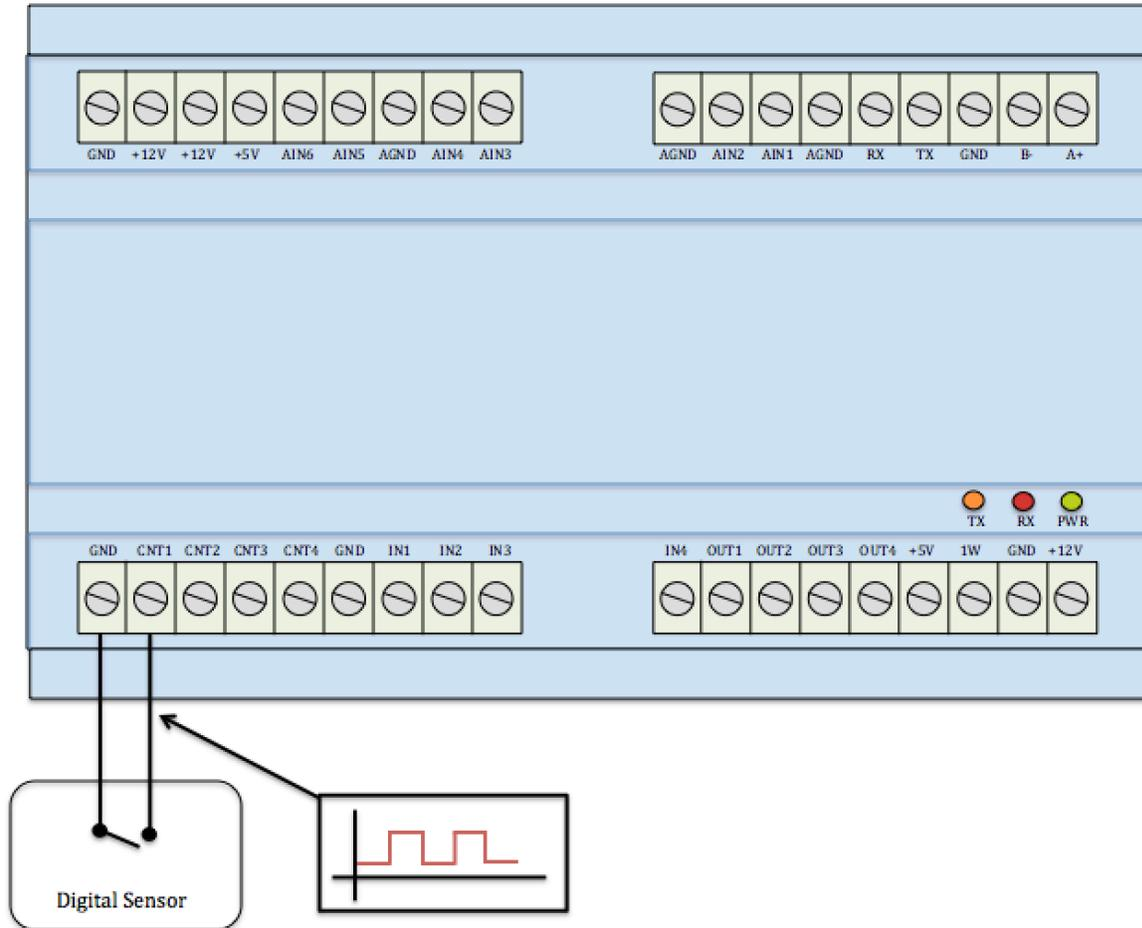

Figure 6. Counter Connection Diagram
The inDAC has four (4) counter cumulative inputs labeled CT1 –CT4 rated to a maximum switching frequency of 1000 samples per second (1 kHz) and protected to 24 VDC input. These inputs need to be setup with sinking logic and will register a pulse/switch when connected to ground. Common sensors include hall-effect flow meters, reed switch flow meters, speed sensors, and contact closures. **Figure 6** shows the typical connection diagram for sensors.